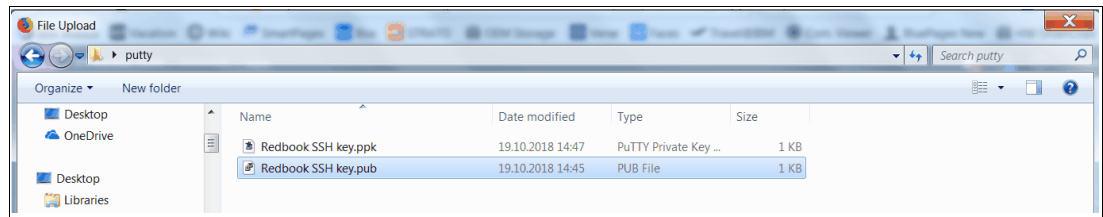

Figure A-10 Selection of the public SSH key
4. Select your public key, and click **Open** (see Figure A-10).